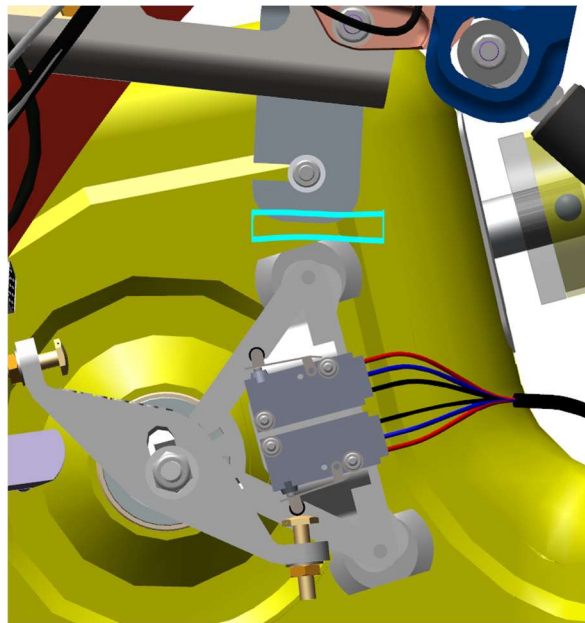

Figure 7. Gap between ECS heater bracket and trimmed CLICKBOND stud
- If needed, identify any areas of interference between the Limit Switch Bracket and ECS heater bracket by pre-installing 1 each of the CLICKBOND studs (CB4000G08CRA8P750) approximately as shown in **Figure 7**. Mark the area of interference with ECS heater bracket with a permanent black marker. Loosen from each CLICKBOND stud, shim the gap and cut away interference area with a hand cutting tool. Be careful not to damage the surrounding area. Clean working area to remove all FOD, including carbon dust, with a shop vac.